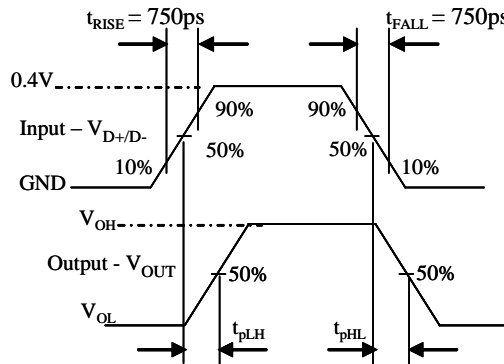
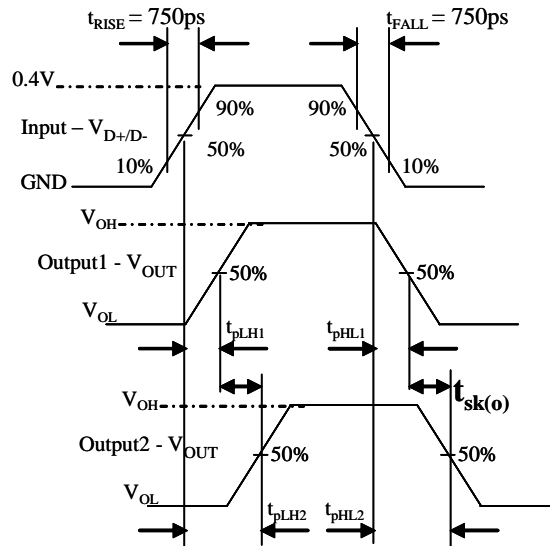

Figure 17. Pulse Skew:  $t_{SK(P)} = |t_{pHL} - t_{pLH}|$
Figure 18. Output Skew:  $t_{SK(O)} = |t_{pLH1} - t_{pLH2}|$  or  $|t_{pHL1} - t_{pHL2}|$
| t SK(o) | Channel-to-Channel Skew (9)                         | V AUDIO =3.0VV BUS =4.25V | t R =t F =750ps (10-90%) at 240MHz C L =0pF, R L =50ΩFigure 17, Figure 18       | 35   | ps   |
| t SK(P) | Skew of Opposite Transitions of the Same Output (9) | V AUDIO =3.0VV BUS =4.25V | t R =t F =750ps (10-90%) at 240MHz C L =0pF, R L =50ΩFigure 17, Figure 18       | 35   |      |